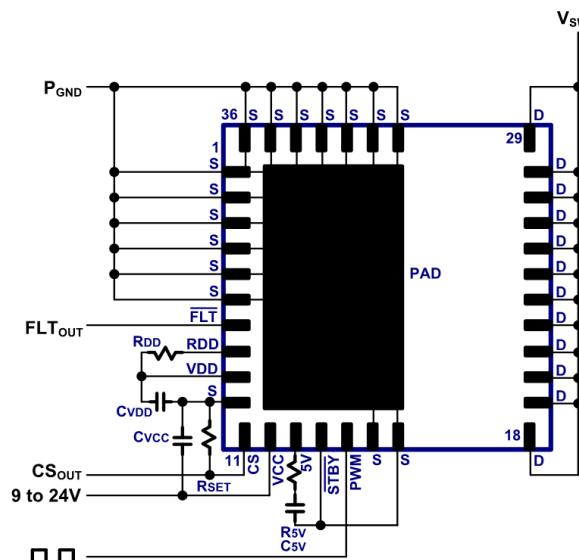

Fig. 20. IC connection diagram
The typical connection diagram for this GaN Power IC is shown in Fig. 20. The IC pins include drain of the GaN power FET (D), source of the GaN power FET (S), IC supply (Vcc), gate drive supply (V_{DD}), gate drive turn-on control SET input (R_{DD}), PWM input (PWM), Fault output (FLT), current sensing output (CS), auto-standby mode input (STBY), and a 5V supply (5V). The Source pad and Source pins (S) should all be connected to the system PGND. The Source pins (S) should each be connected externally to the Source pad directly underneath the IC. The Drain Pins (D) should all be shorted together in the PCB layout (see Section 9). The external components around the IC include Vcc filter capacitor (C_{VCC}) connected between Vcc pin and S, V_{DD} filter capacitor (C_{VDD}) connected between V_{DD} pin and S, turn-on dV/dt set resistor (R_{DD}) connected in between V_{DD} pin and R_{DD} pin, a current sense amplitude set resistor (R_{SET}) connected between CS pin and S, and auto-standby mode pin (STBY) connected to S. A series resistor (R_{5V}, 20 ohm) capacitor (C_{5V}, 0.01uF max) is required between pin 5V and S. This 5V pin is for internal purposes only and must not be used for biasing external circuitry.